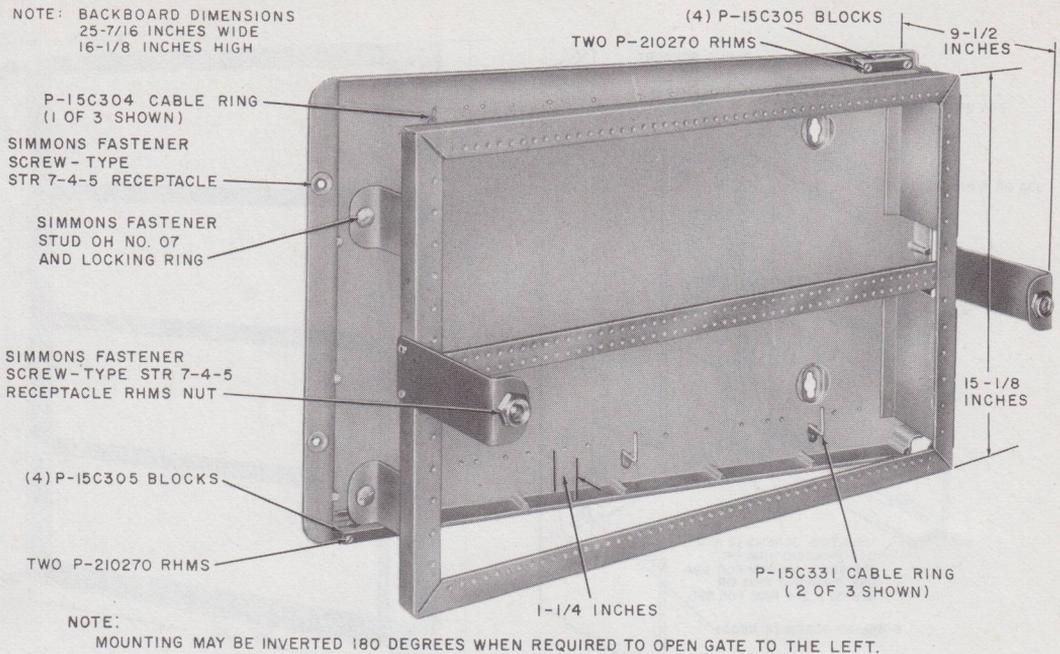

Fig. 6—16C Apparatus Mounting
- 16C apparatus mounting (Fig. 6)
2.07 The 16C apparatus mounting (Fig. 6) is a hinged metal framework comparable to the 16A apparatus mounting. The molded fiber glass backboard is drilled to handle 66-type connecting blocks. On mountings manufactured after July 1973, the mounting key holes are slotted at both ends and a second cable entry hole has been added to allow the apparatus to be mounted with the gate hinges at either left or right. Cable rings should be installed in the apparatus mounting after deciding which edge is top and bottom. See Fig. 6. The 69-type apparatus mounting and 600-series panels can be installed on the 16C apparatus mounting